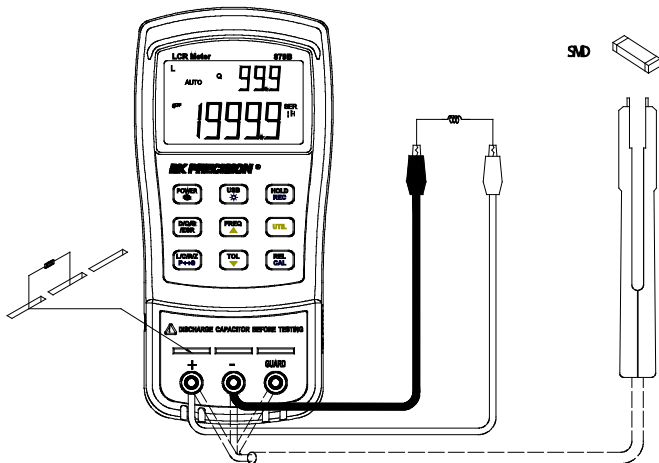

Figure 10 - Inductance Measurement Setup
3. Insert an inductor into either the input sockets or connect alligator leads into the banana jack input terminals and connect the clips to the component leads as illustrated in Figure 10.